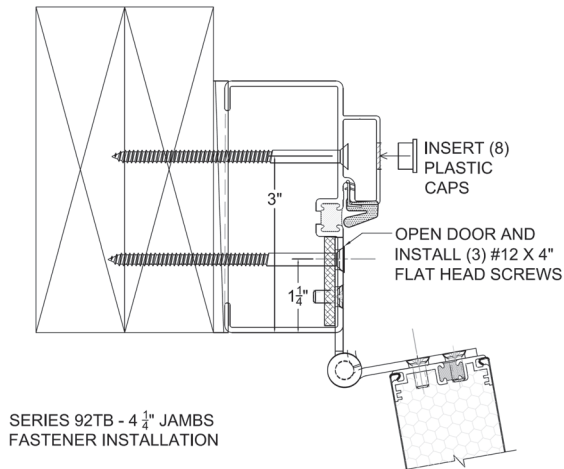

FIG. 3 Install Screws through Hinges
With the door wide open, install three (3) #12 x 3-1/2" coated Flat-Head wood screws through the open hinge holes. SHIM BEHIND EACH HINGE AND INSTALL ONE SCREW THROUGH EACH HINGE LEAF. See FIG. 3.
STEP 6 Snap in screw caps – see Fig. 3.